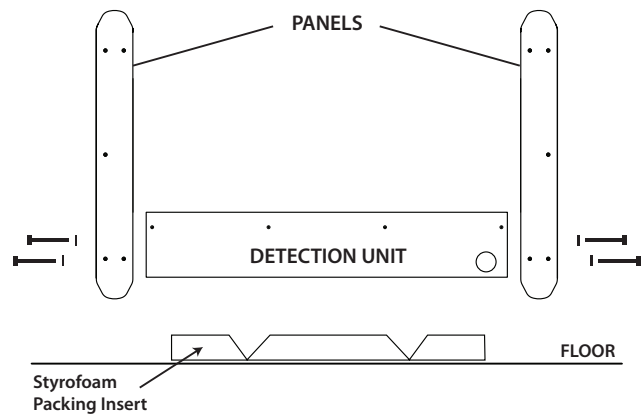

FIGURE 3-5
3. Place the packing insert on floor as shown in Figure 3-5. Lay detection unit (with touchpad panel facing down) on packing insert. Place the panels as shown with Panel A (single optic) on the left side. Use a No. 3 Phillips bit or screwdriver to connect detection unit to the panels with four screws and finishing washers. Do not tighten!